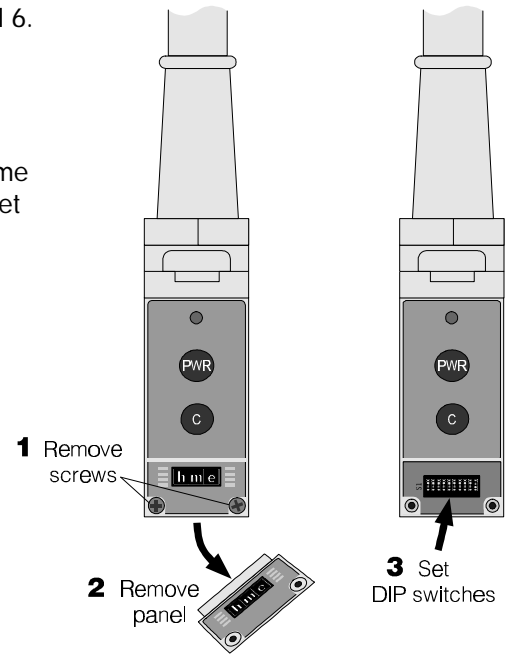

Figure 9.
- ! Use a Phillips (crosspoint) screwdriver to remove the panel covering the Communicator DIP switches as shown in #1 and 2 of Figure 9.
- ! Check the positions of the Communicator DIP switches (#3 in Figure 9) to be certain its transmit frequency settings match the receive frequency of the base station, and its receive frequency settings match the transmit frequency of the base station. Refer to Table 2 below.